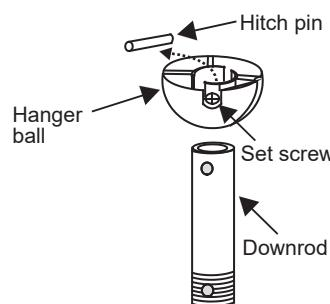
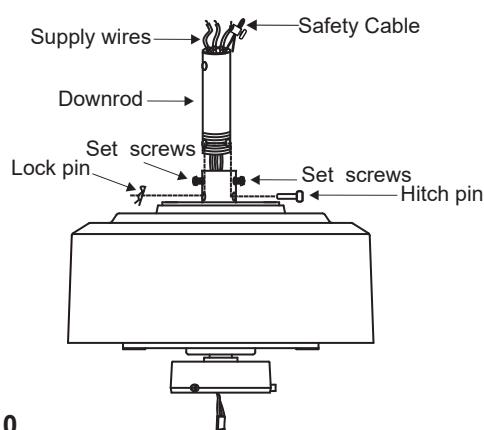

Fig. 9
Fig. 10
3. If you plan to use the downrod packaged with your ceiling fan, remove the hanger ball by loosing the set screw, unscrewing the safety pin and unscrewing the hanger ball. If you are using a different downrod, skip to the next step. (Fig. 9)
4. Loosen the two set screws in the motor coupling until the inside channel is clear of the screws. Remove the Safety Pin and Locking Clip in the top of the motor coupling. (Fig. 10)
5. Carefully feed the fan lead wires and safety cable up through the downrod. Thread the downrod into the motor coupling until the Safety Pin holes are aligned. (Fig. 9) Next, replace the Safety Pin and secure with the Locking Clip. Securely tighten both set screws. (Fig. 10)